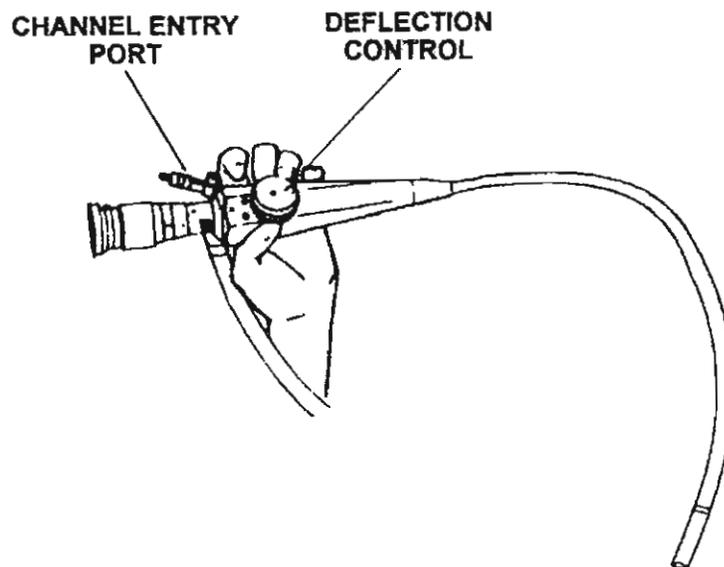

Figure 2-1. Holding the fiberoptic bronchoscope.
b. Position the fiberoptic bronchoscope in your left hand as depicted in figure 2-1.